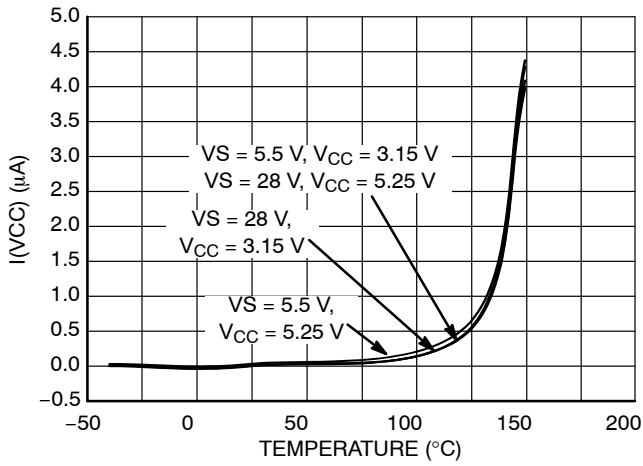

Figure 16. $I(V_{CC})$ vs. Temperature
- Refer to Figure 16 for the VCC standby current behavior.